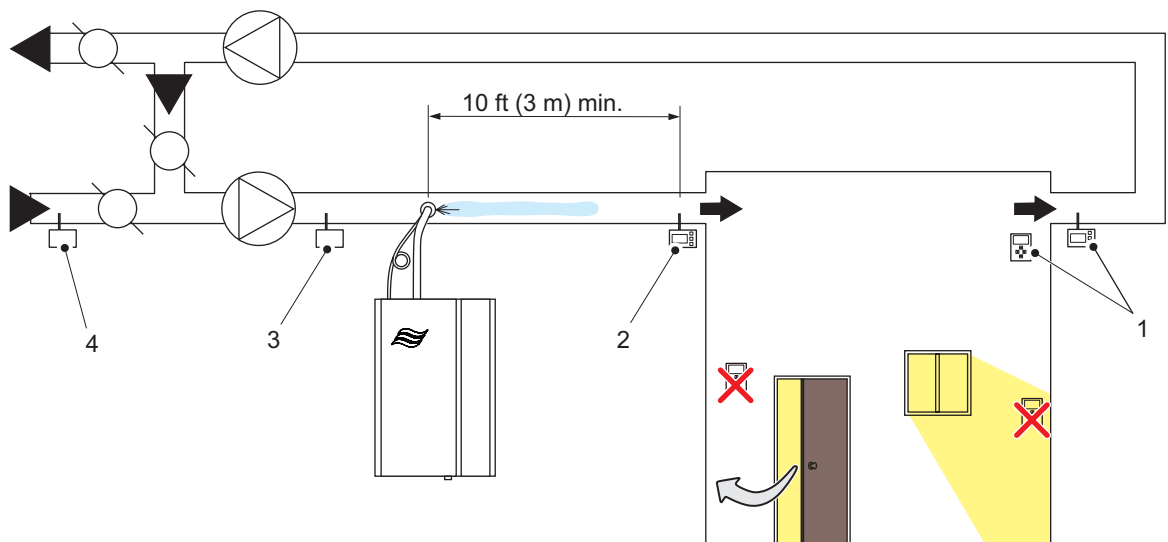

Figure 26: Duct Humidity Control Location
When using the supply air duct for steam distribution, Condair highly recommends the use of an air proving switch and a high limit humidistat in addition to a humidity controller. Environments with exterior walls should also consider using an outdoor temperature sensor in the system. Refer to Figure 26.
- The distance between the steam distributor and the Condair duct humidistat or transducer should be minimum 10 ft (3 m), or greater than the calculated absorption distance. Refer to Figure 26 on page 51.